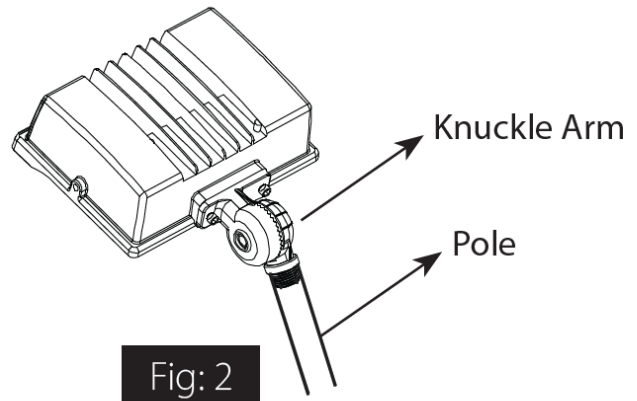

Fig: 2
3. The Knuckle Arm allows 180° of vertical aiming adjustment depending on the mounting position as shown in Fig. 2.